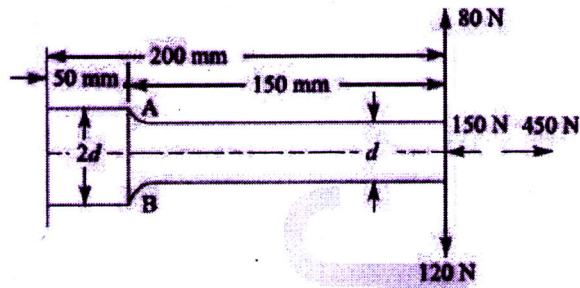

Fig.3
- 17 a) A steel cantilever is 200 mm long. It is subjected to an axial load which varies from 150 N (compression) to 450 N (tension) and also a transverse load at its free end which varies from 80 N up to 120 N down. The cantilever is of circular cross-section. It is of diameter 2d for the first 50 mm and of diameter 'd' for the remaining length (Fig.3). Determine its diameter taking a factor of safety of 2. Assume the following values: (14)